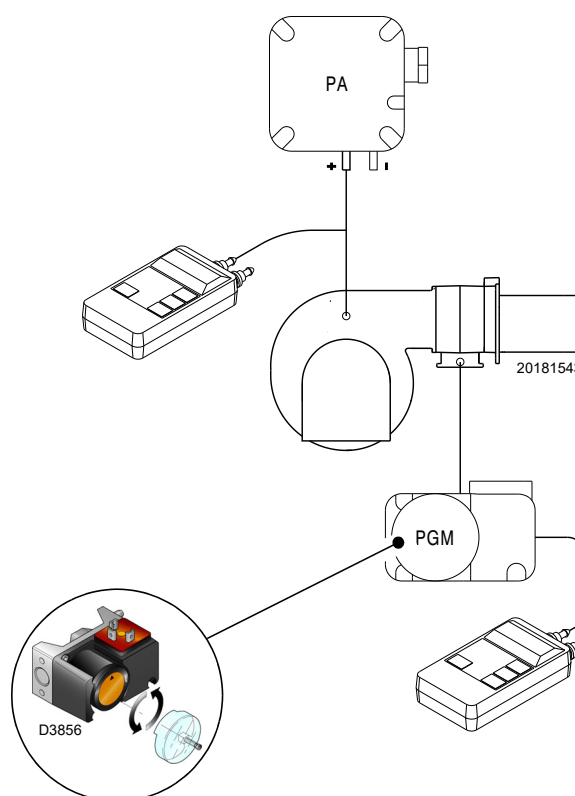

Fig. 33
- Adjust the maximum gas pressure switch (Fig. 33 at page 32) to the end of the scale.
Adjust the maximum gas pressure switch (Fig. 33) after making all other burner adjustments with the maximum gas pressure switch set to the end of the scale.